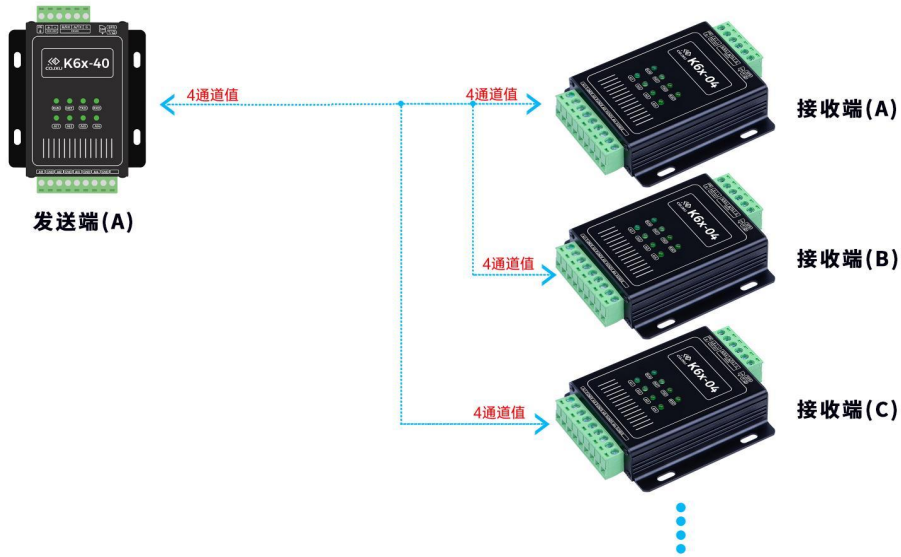

Figure 4-15 One-to-many (with reply)
2. One-to-many (with reply): the corresponding relationship between the channel values of the sender and the receiver, as shown in Figure 4-15